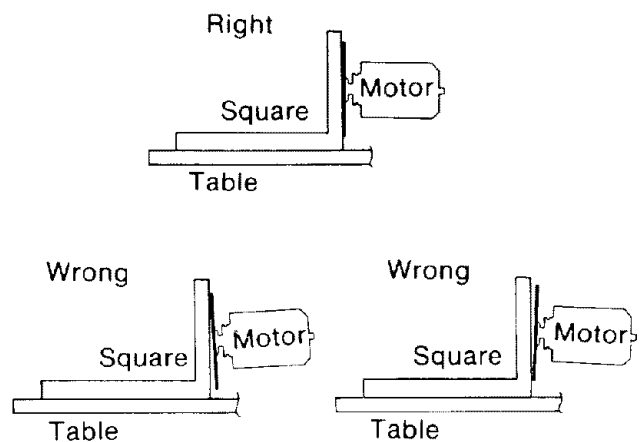

Fig. 81
7. If the square is flush with the *blade* after each rotation, no change is needed. (Figure 81) Go to the next section, or
If there is a gap between the square and the *blade* after any rotation (Figure 81), go to step 8. **Note:** Saw blades are manufactured to different specifications. Therefore a small gap is permissible on some brands.